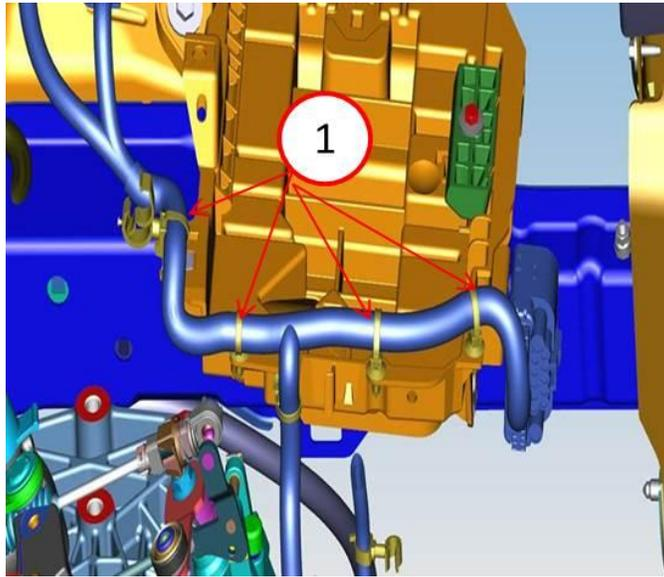

Fig. 15 Clip Location At Battery
19. Remove the 4 push pins from the battery tray to the harness (Fig. 15).